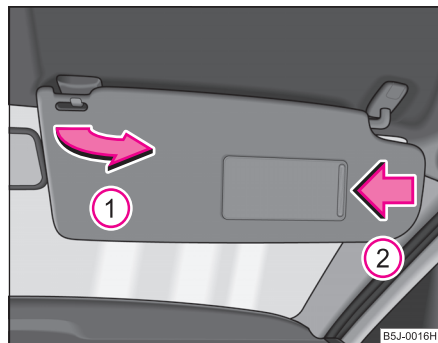

Fig. 44 Sun visor: swivelling out
You can pull the sun visor for the driver or front passenger out of the fixture and swivel it toward the door in the direction of the arrow ① ⇒ fig. 44.